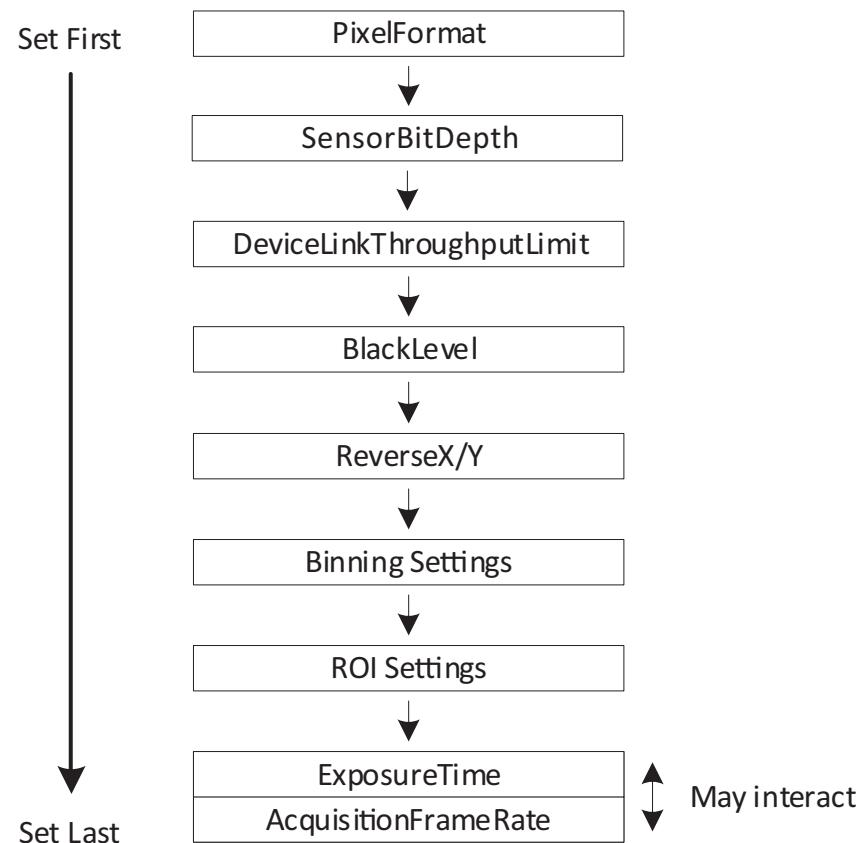

Figure 118: Interdependencies between features
The conversion between time and clock cycles affects control values. Features for pixel format, bandwidth, ROI, exposure time, and triggering are related to each other. Changing values for one feature can change values for another feature. For example, frame rates can be reduced when **PixelFormat** is changed subsequently. Figure 118 shows the interdependencies.
- To avoid readjustments, apply settings in the order shown in Figure 118.